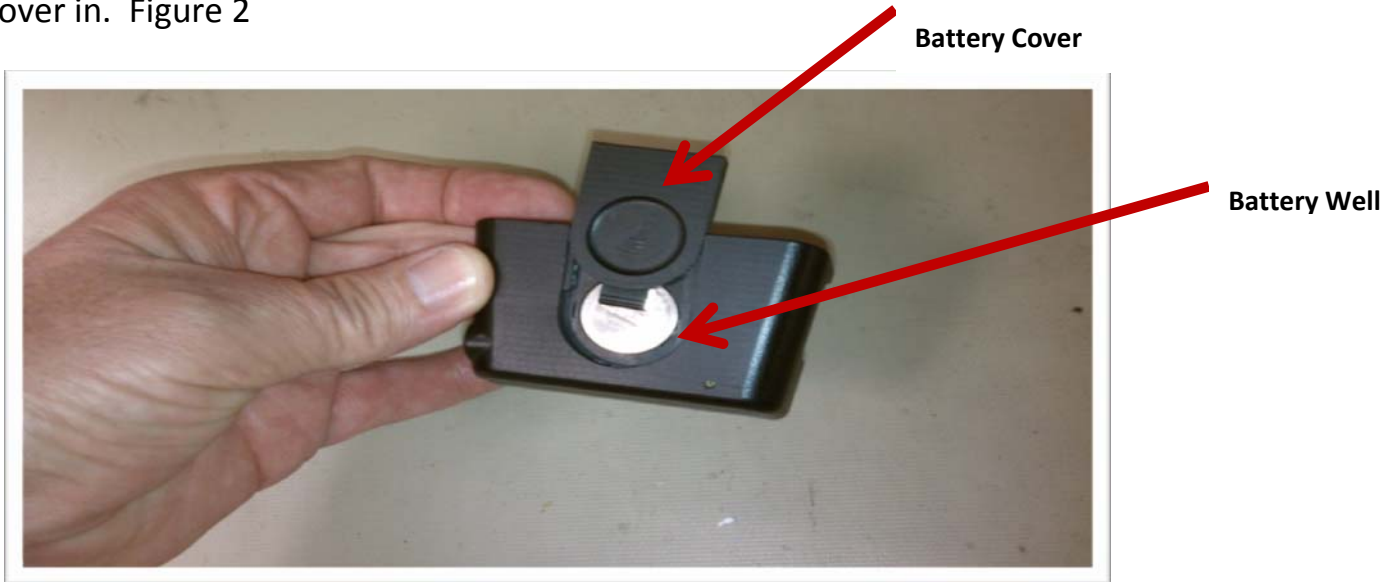

Figure 2
1. Insert the Lithium Coin Battery into the Battery well, and then slide the battery cover in. Figure 2